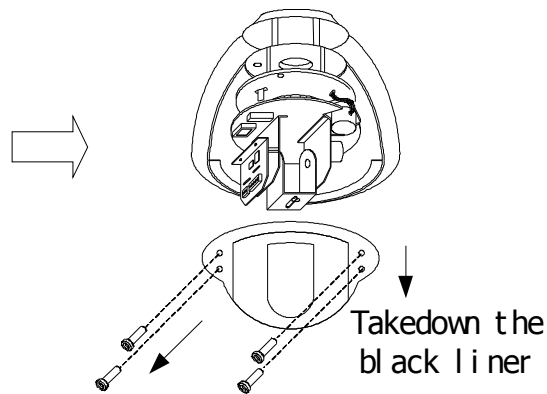

Figure 7
3. Take out the black liner (if fitted). (Figure 7)